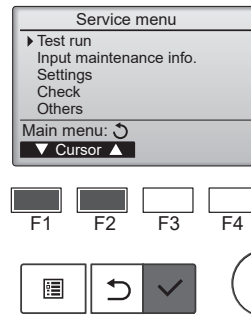

Fig. 8-1
- (1) Select "Test run" from the Service menu, and press the [SELECT] button. (Fig. 8-1)